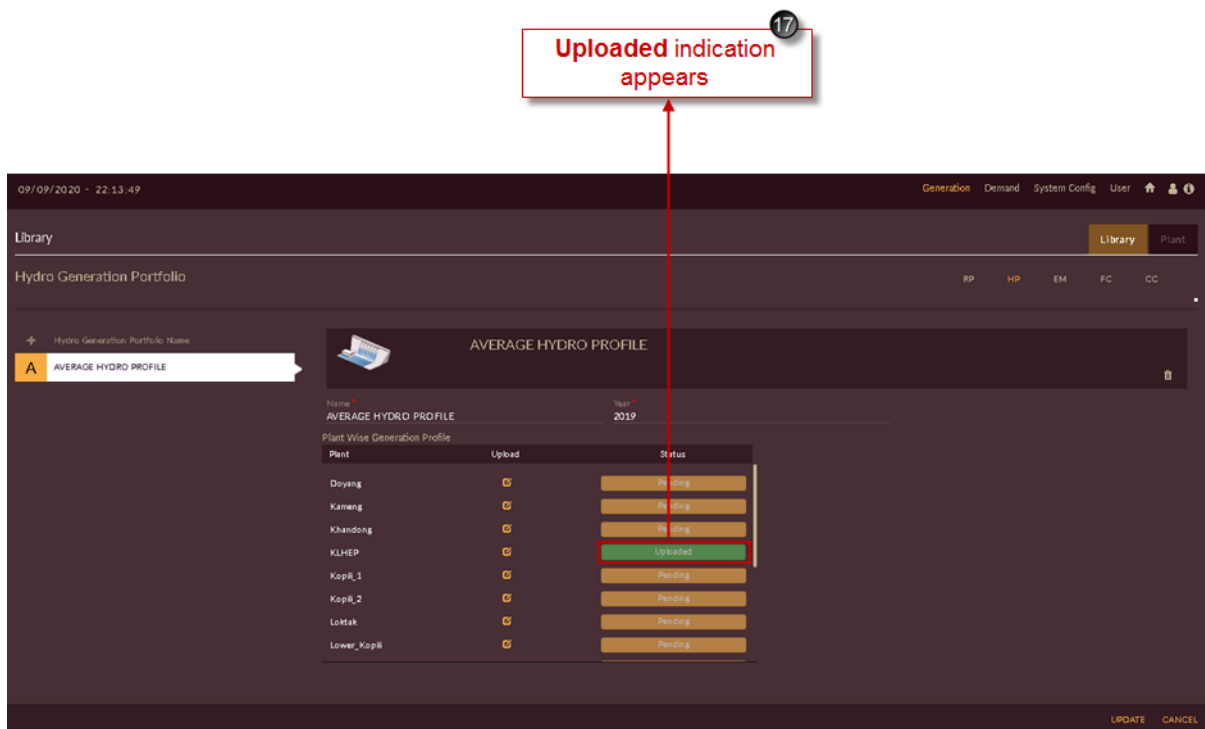

Figure 173. Uploaded Profile Indication
17. Once profile is imported successfully, **Pending** **Pending** indication will get changed to **Uploaded** **Uploaded** indication as shown in Figure 173.